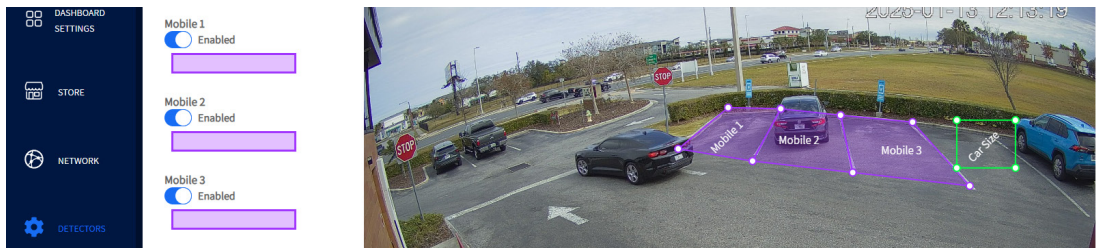

Fig. 26
- The Car Size polygon (in green) is used as a reference to approximate a car’s size. Any average-sized car (e.g., a sedan) can be used, provided it is close to the mobile spaces. Place the box over a car and adjust it using the corner points to match the car’s size. If no cars are present, a mobile space can be used to approximate the size of a car (the installer can also use their car if it is an average-sized vehicle). If you sized the car using a Mobile space, move the Car Size polygon out of the Mobile space drawing before saving. See Fig. 26.